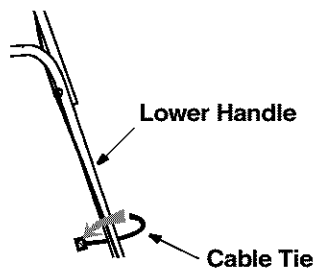

Figure 7
- Secure the cable to the lower left handle near the base of the unit with a cable tie from group 3 of the hardware pack. Trim off extra length of the cable tie. See Figure 7.